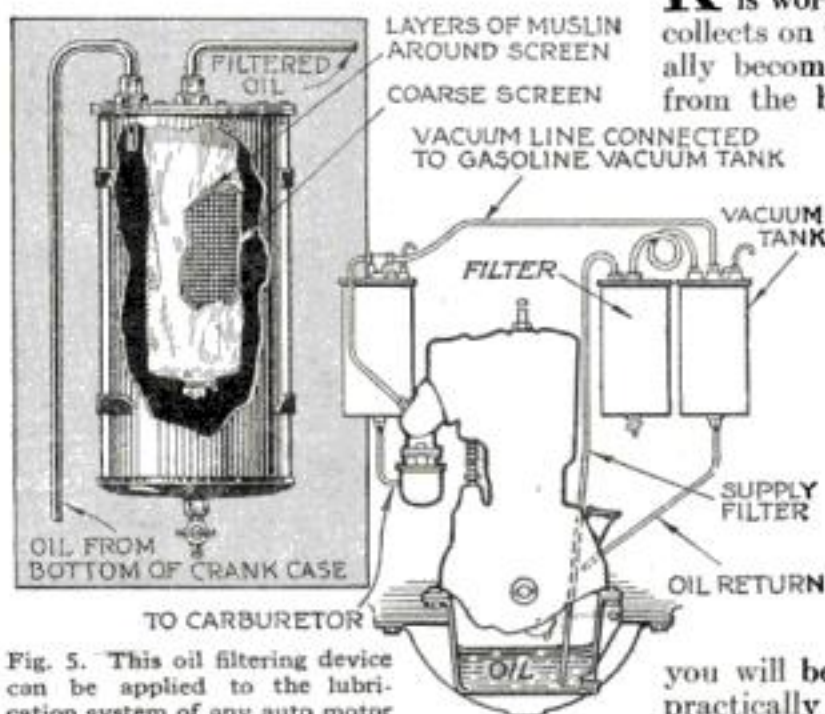

Fig. 5. This oil filtering device can be applied to the lubrication system of any auto motor
E. E. LINDSAY, of Champaign, Ill., wins this month's \$10 prize with his suggestion of an oil filter (Fig. 5). Each month **POPULAR SCIENCE MONTHLY** awards \$10, in addition to regular space rates, for the best idea sent in for motorists. Other contributions published are paid for at the usual rates.
FIG. 5 shows a homemade oil filtering system that can be applied to any automobile to make it modern and up-to-date.